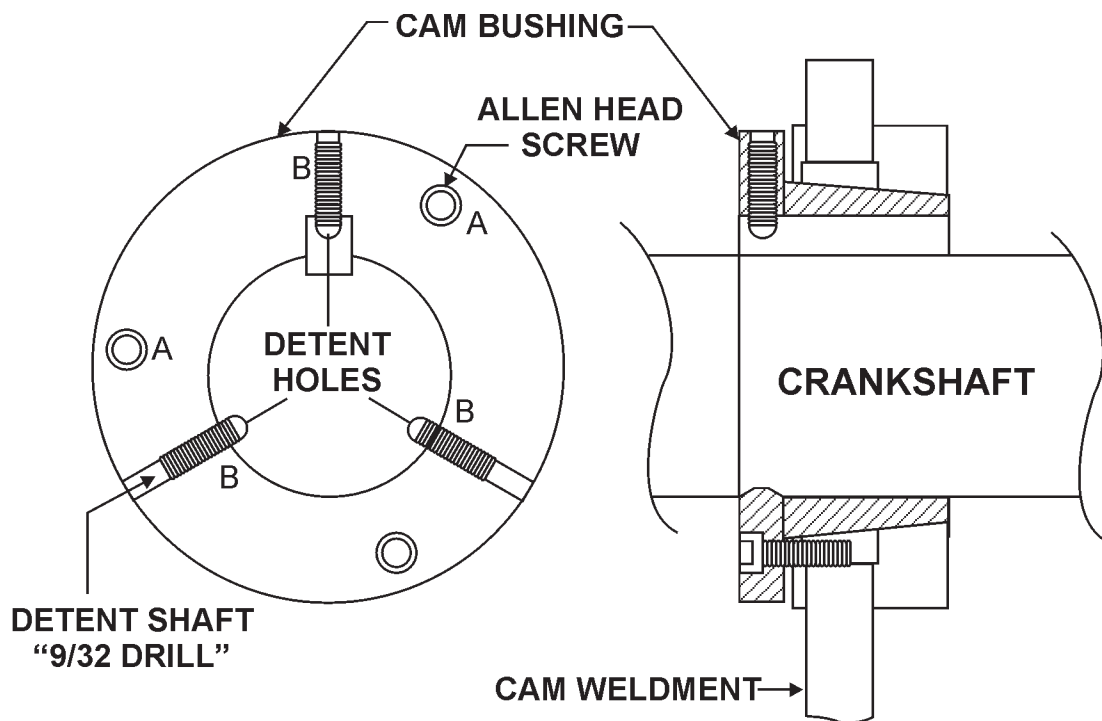

Figure 25. Detent Holes
1. After the bearing assembly has been installed, remove the three “dog type” allen head set screws (B) to allow detents to be drilled. See Figure 25 below.